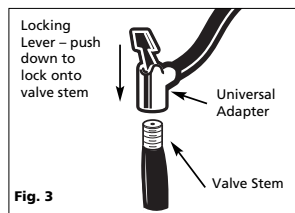

Fig. 3
d.) Press locking lever down to lock onto valve stem (see Figure 3).
- 1) To use inflation accessories, insert accessory into the universal adapter and push the lever to lock into place (see Figure 3). The inflation accessory will fit securely.